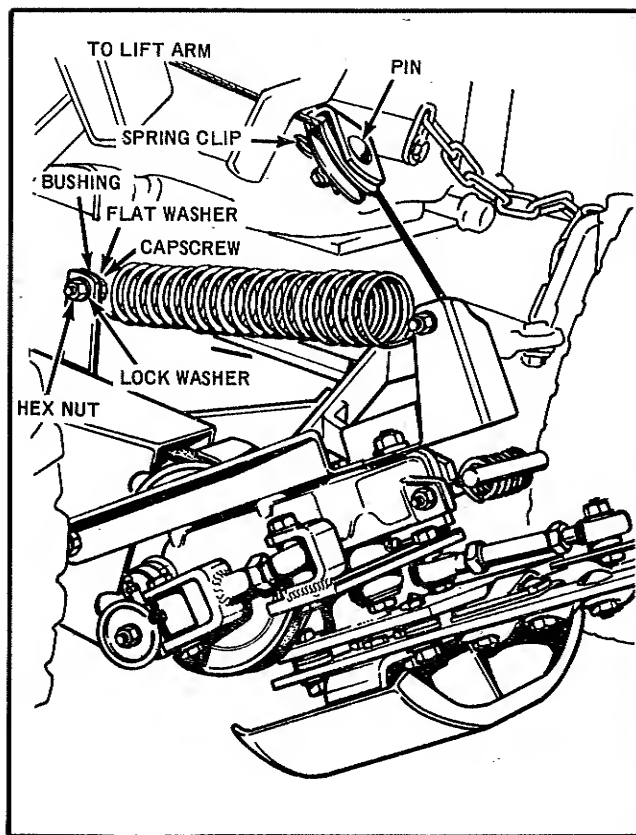

FIGURE 4
6. For all models except Mfg. No. 210, fasten the small loop end of the large tension spring (part no. 101126) to the vertical bracket on frame assembly, using a bushing, hex capscrew, lock washer and hex nut as shown in Figure 4. The opposite end of the tension spring is attached to the lift cable brace as shown. Place bushing on capscrew and insert capscrew with head inside of cable brace lock washer and hex nut on outside. Raise end of cutter blade until spring may be hooked in place over the bushing.
Remove the spring clip from the pin holding the cable pulley in its bracket and remove pin and the pulley. Place the lift cable in the groove of the pulley and replace the pulley in the bracket and re-install the pin and spring clip. Attach one end of the lift cable to the lift arm as shown in Figure 4 and attach the lower end of the cable to the lift cable brace on the hinge assembly. Fasten with pins and spring clips.